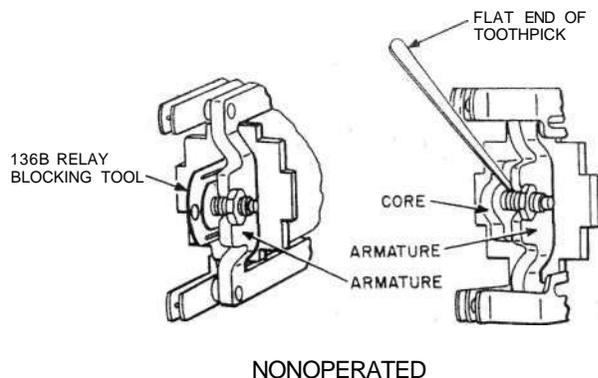

Fig. 1—Blocking Nonoperated A-, AB-, E-, F-, H-, M-, R-, T-, 236-, 266-Type and EA1- though EA13-Type Relays
**3.01 A-, AB-, E-, EA-, F-, H-, M-, R-, T-, 236-, and 266-Type, and Similar-Type Relays:** Fig. 1 and 2—Block relays nonoperated by inserting the 136B relay blocking tool between the core and the armature. Block relays operated by inserting the 136B tool between the armature